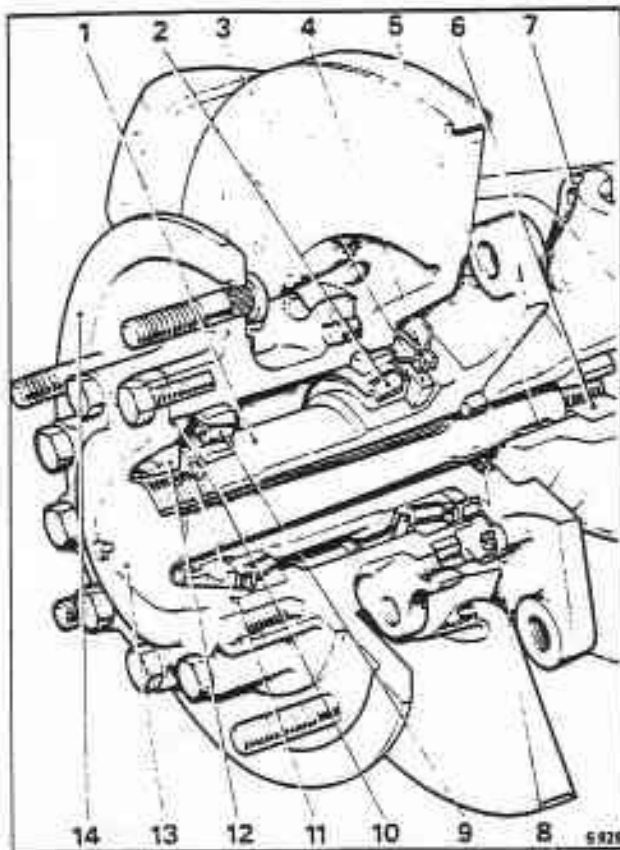

Fig. J4-6 Rear hub (cars fitted with ball and trunnion joints)
10. Fit the Woodruff key to the hub drive-shaft taper. Ensure that the tapers are perfectly clean and dry before fitting the hub yoke or hub coupling (see figs. J4-6 and J4-7) applicable to cars other than Bentley Mulsanne Turbo.
13. Torque tighten the nut in accordance with the figure quoted in Section J6 using torque spanner RH 8014 and socket RH 8026 (see figs J4-6 and J4-7). Socket RH 8026 on all cars other than Bentley Mulsanne Turbo.